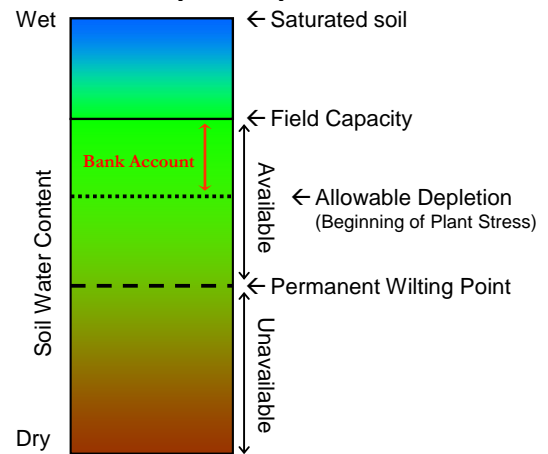

Figure 1. Soil water content from saturated to dry. Optimal levels for plant growth are between field capacity and allowable depletion.
- Available Water is the amount of water held in the soil between field capacity and permanent wilting point. (Figure 1.)